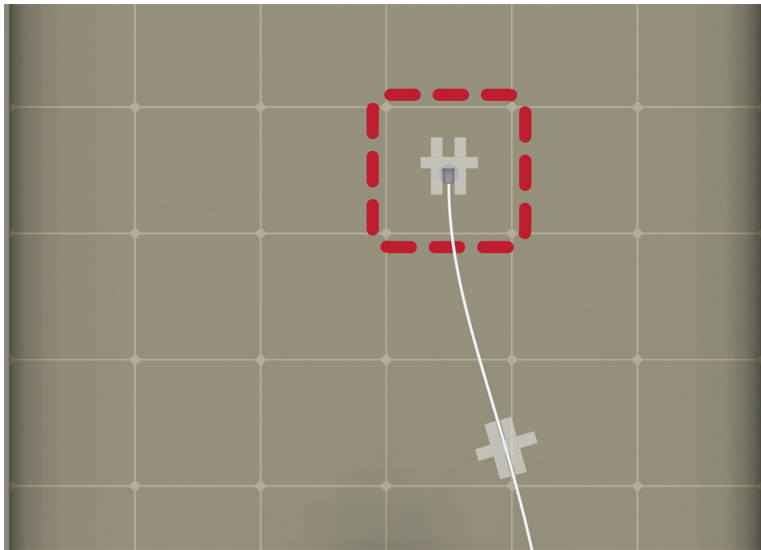

FIGURE 7-5. Proper tape usage
2. Place the other strips of tape perpendicular and on top of the first strip of tape and rub the tape surface to remove bubbles. These strips of tape should form an H (FIGURE 7-5 (p. 16)).
3. To secure the sensor to the module surface, remove the paper from the bottom of the disk and adhere the disk to the PV module (Placement on a photovoltaic (PV) module (p. 13)).